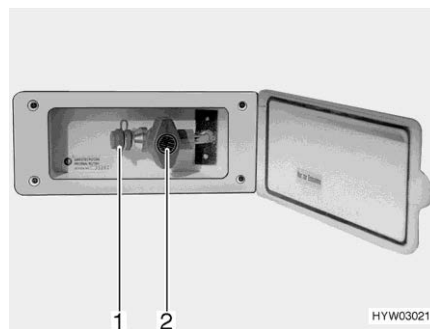

Fig. 131 External gas connection
- Connect the external gas device to the connection point (Fig. 131,1).
- Open the gas isolator tap (Fig. 131,2).